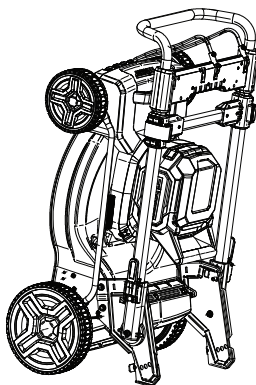

Fig. 22
1. Switch the product off and remove the battery pack (24) before storage.
3. Suggest folding the handle assembly and storing the product vertically to save space (Fig. 22).